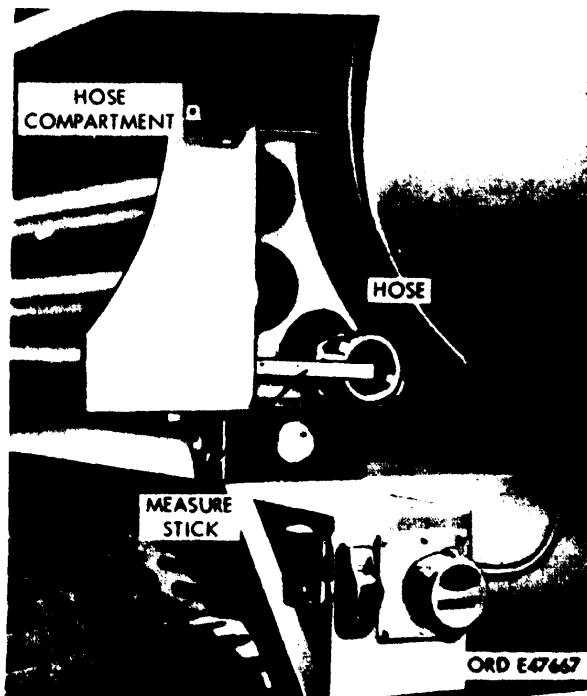

Figure 2-18. Hose compartment.
a. Whenever a transfer hose is required, remove the necessary lengths from the hose stowage compartment (fig 2-18) and couple them as required.